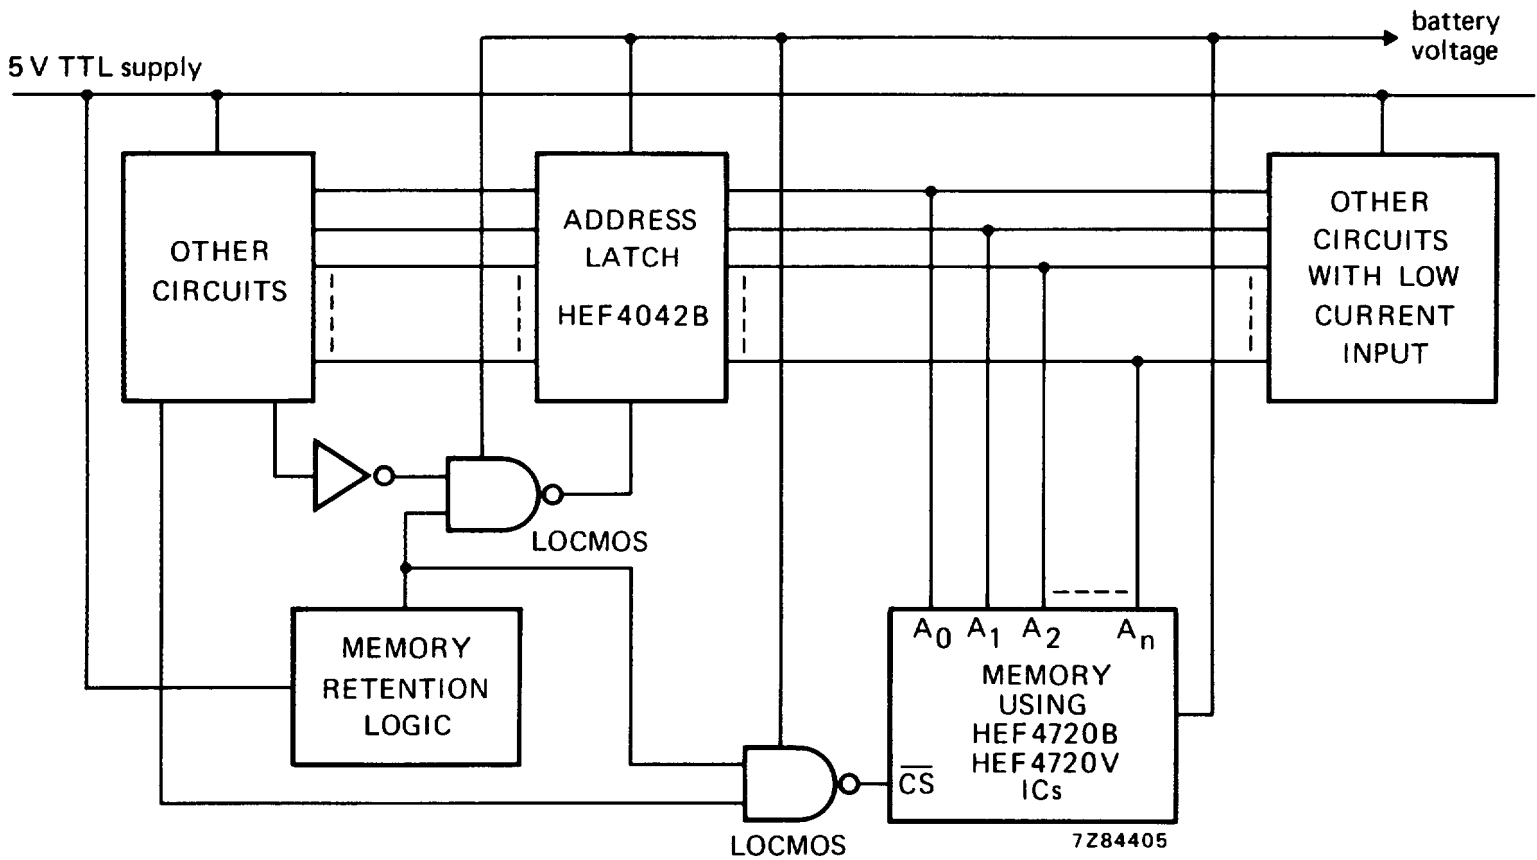

Fig.11 Preferred solution for memory retention; all interface circuits are battery-fed LOC MOS. Note that maximum sink current of the HEF4042B is about 1,5 mA.
3. The best solution is to select the interface circuits from the LOCMOS family and to feed all these circuits from the battery (Fig.11). These stages then remain active when the TTL 5 V supply fails. The interface circuits are mostly only active on a clock pulse, have the possibility of being inactive on a gate level, or can be forced into one position.